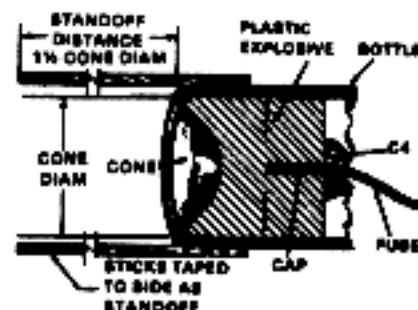

Figure 15-17. Improvised shape charge
(1) Improvised shape charge (figure 15-17).